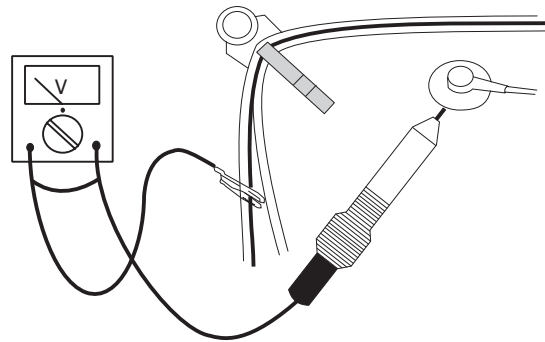

Fig.1
- While holding the SMD with a pair of tweezers, take it off gently using the soldering iron's heat applied to each terminal (see Fig. 1 B).
2. In order to prevent damage to ICs and transistors, all high-voltage flash-overs must be avoided. In order to prevent damage to the picture tube, the method shown in Fig. 1 should be used to discharge the picture tube. Use a high-voltage probe and a multimeter (position DC-V). Discharge until the meter reading is 0 V (after approximately 30 seconds).